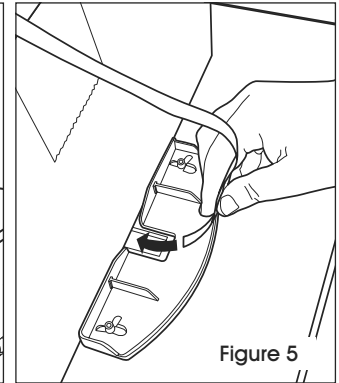

Figure 5
- b. Pass strap around package and insert the strap end into the strap inlet to start the strapping tensioning and heat sealing cycle. (See Figure 5)